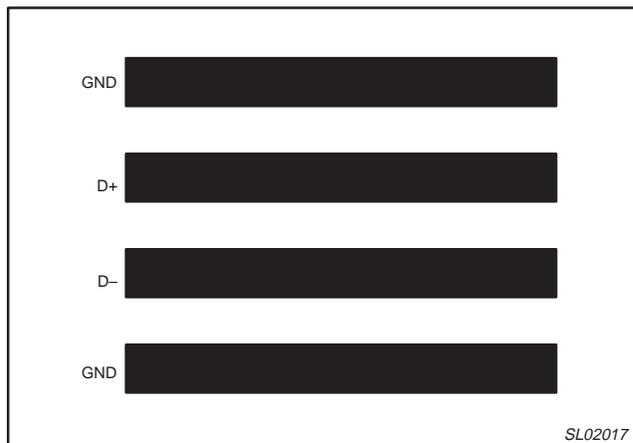

Figure 10. Ideal diode trace layout.
2. Route the D+ and D- lines parallel and close together with ground guards enclosing them (see 'Ideal diode trace layout', Figure 10).